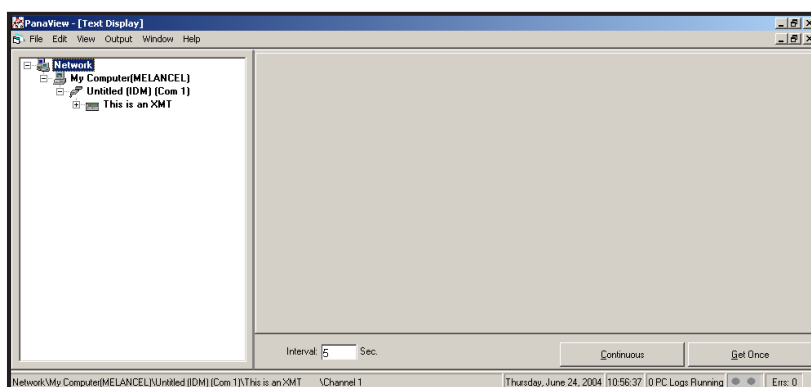

Figure 6: The Text Display Window
5. Using the *Window* menu, arrange the open windows in the desired format. For this discussion, Figure 6 shows the *Text Display* window in its maximized (full-screen) size.
Note: Figure 6 has been compressed both vertically and horizontally for improved clarity.